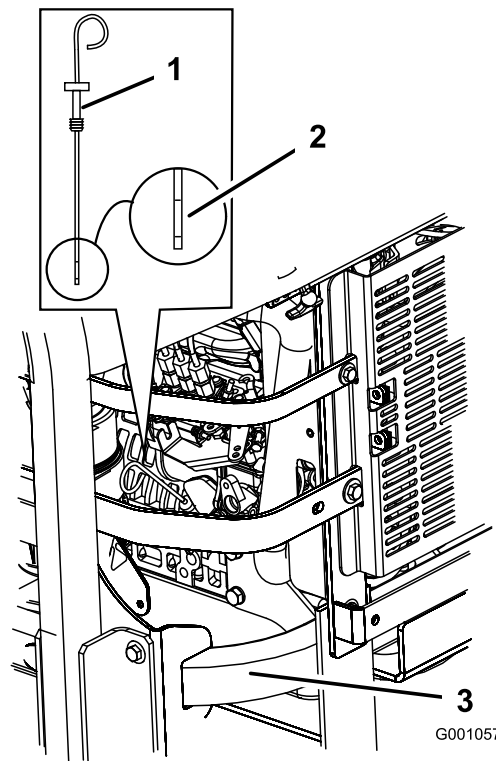

Figure 33
3. Clean around the oil dipstick (Figure 33) so dirt cannot fall into the filler hole and damage the engine.
4. Pull the oil dipstick out and wipe the metal end clean (Figure 33).
5. Slide the oil dipstick fully into the filler tube. Pull the dipstick out and look at the metal end (Figure 33). If the oil level is low, slowly pour only enough oil into the fill hole to raise the level to the full mark.